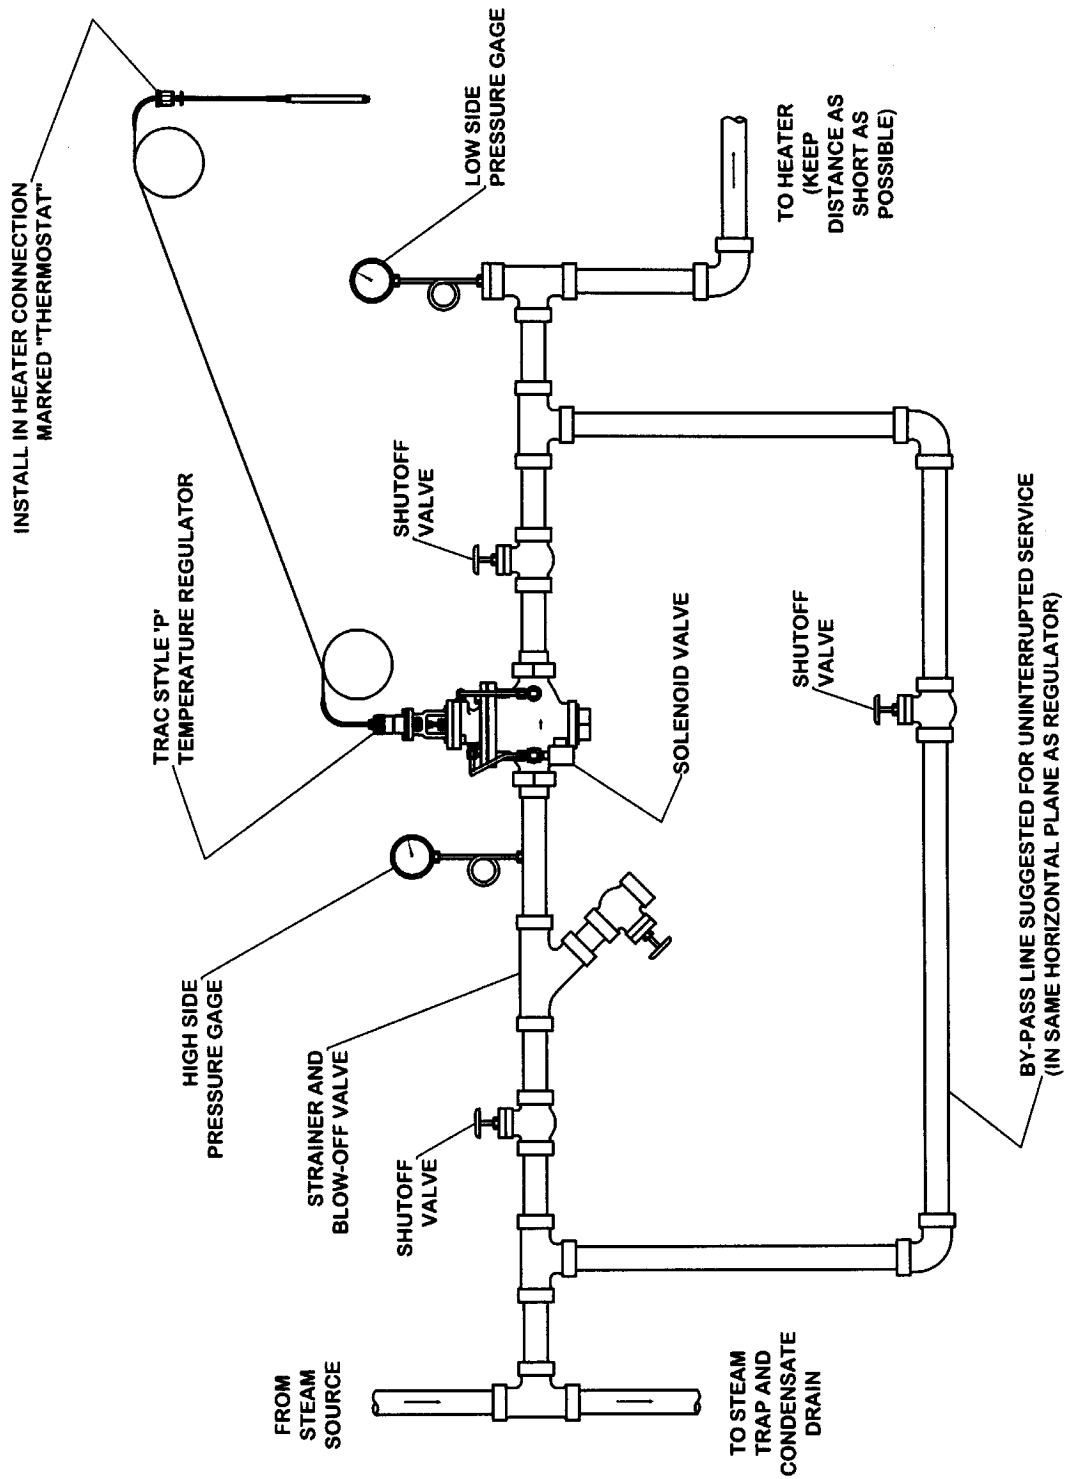

Figure 1 Installation Diagram
Accessories normally required for use with the Trac Temperature Regulator are as follows: (see Figure 1):
1. See Figure 3 for dimensions. Install the Regulator in accordance with Figure 1 and following steps 2 through 10.
4. Install an in-line steam strainer, as shown in Figure 1, ahead of the Regulator, and install an inlet side pressure gauge and outlet side pressure gauge as shown. The bypass valve (optional) should be a manually operated metal seated globe valve. The shut-off valves should be metal seated gate valves.
10. After the Regulator has been installed in the steam line, assemble the Thermal Element to the Regulator and Heater as indicated in Figure 1, with the bellows end in the Regulator Pilot Adjustment Wheel and the bulb in the "Thermostat" connection in the top of the Heater.
19. For automatic operation, refer to Figure 1, Recommended Installation.
20. If for any reason it is necessary to take the Regulator out of service while maintaining the Heater in operation (see Figure 1):
- a. Clean the steam strainer in the steam line (see Figure 1) in accordance with instructions furnished with the strainer.
- b. The Regulator includes a Solenoid Valve (51) incorporated on the inlet side pilot tube line. Check its operation in accordance with the step 33(b).
- All connections are in accordance with Figure 1 and steps 1 through 10.
- The Thermal Element (1) is properly installed in the Regulator Adjustment Wheel (2) and in the "Thermostat" connection in the Heater.
41. Refer to Figure 1. Close the steam shutoff. If it is necessary to keep your Heater in operation, proceed per step 20 above before going further. If not, proceed as follows.